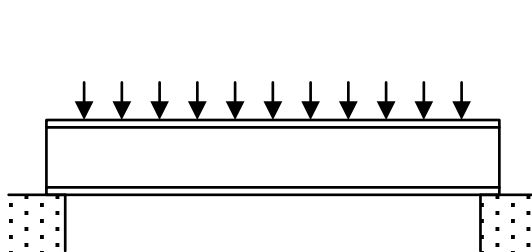

Fig. 7.3
Sometimes, the loading of the beam is uniform, along its length, as shown in Fig. 7.3.
- (c) A steel beam, loaded uniformly as in Fig. 7.3, is allowed to sag by a maximum of $1/360$ of the gap it is spanning. A particular beam is used to carry a load of 33 000 N and to span a gap of 4.20 m. A quantity B , known as the bending moment for this loading pattern is given by